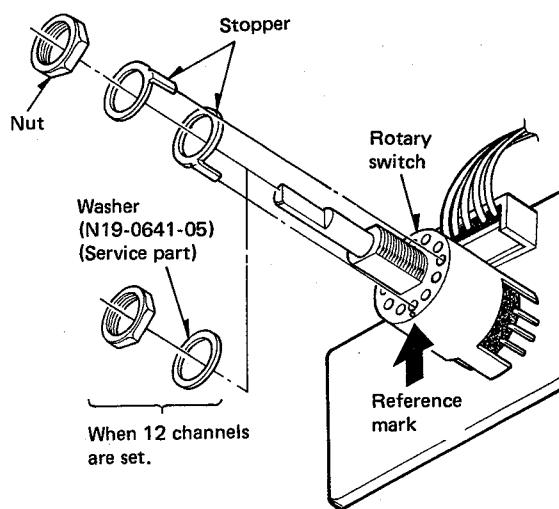

Fig. 2-1
3. Insert the second stopper into the hole following the number of holes equal to the number of channels to be set. (In the Fig. 2-1, 8 channels are set.)